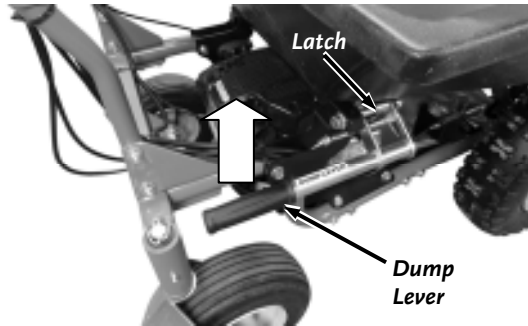

Figure 36
4. Pull up on the Handle of the Dump Lever to dump the load (**Figure 36**).